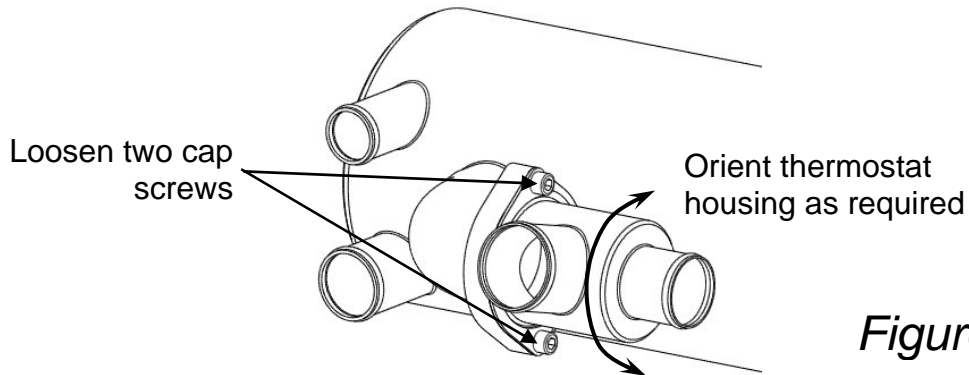

Figure 4
9. If necessary, loosen the two 1/4" cap screws retaining the thermostat housing and reorient to the desired position. Once the desired position has been established, secure the thermostat housing with the two 1/4" cap screws (see Figure 4).